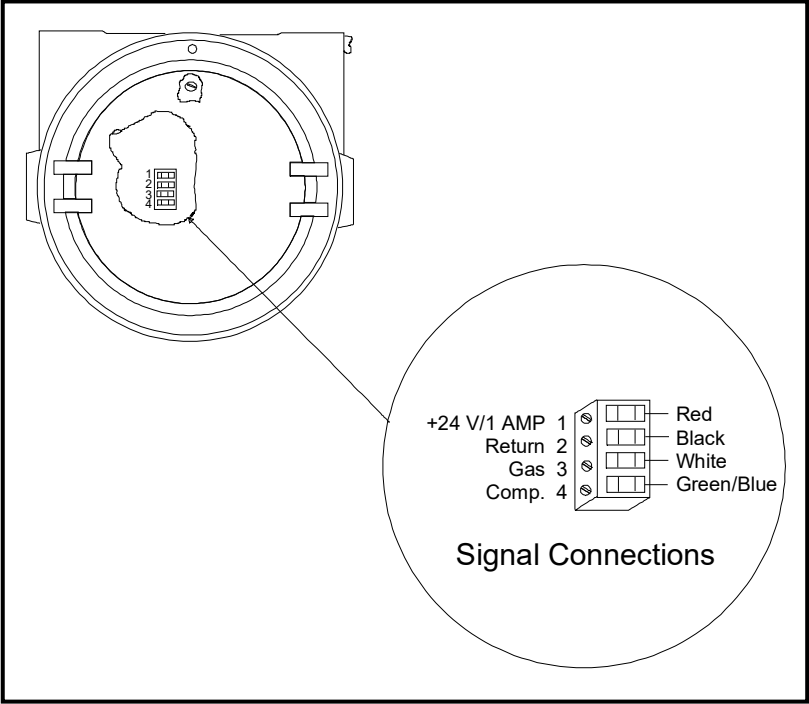

Figure 1: Wiring Connections to TB1 Block
3. Loosen the TB1 side screws and insert the colored wires into the corresponding openings on top of TB1. See *Table 2* below for color-coded pin designations, and *Figure 1* on page 5 for the TB1 location.